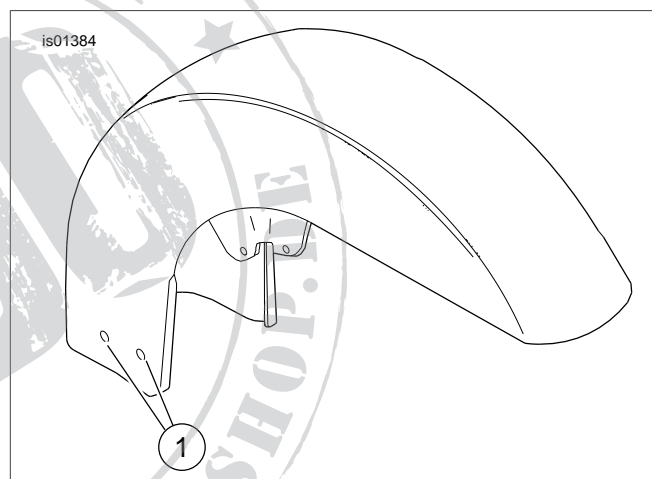

Figure 1. Clean Front Fender Hole Locations
1. See Figure 1. Clean area of fender where fender skirt will be mounted and cover that portion of fender with masking tape to protect painted surface during positioning of skirt and drilling of mounting holes (1).